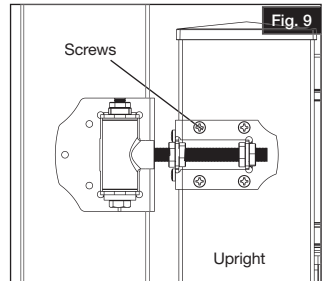

Fig. 9
- Mark and pre-drill $\frac{3}{32}$ " pilot holes on top and bottom upright. Secure using six $1\frac{1}{2}$ " screws (provided with the hinge) to front and side of the upright (Fig. 9). Repeat for the bottom hinge.